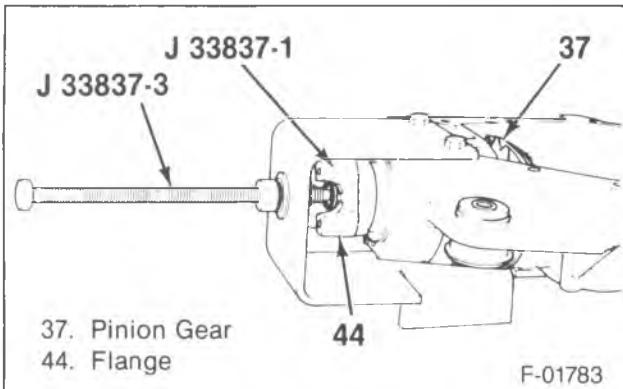
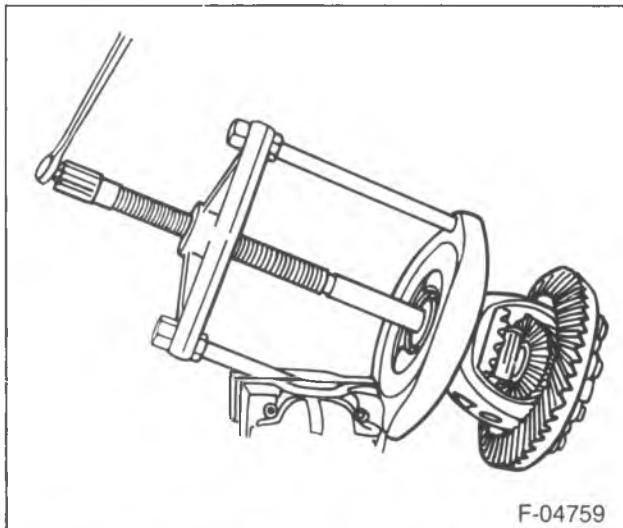
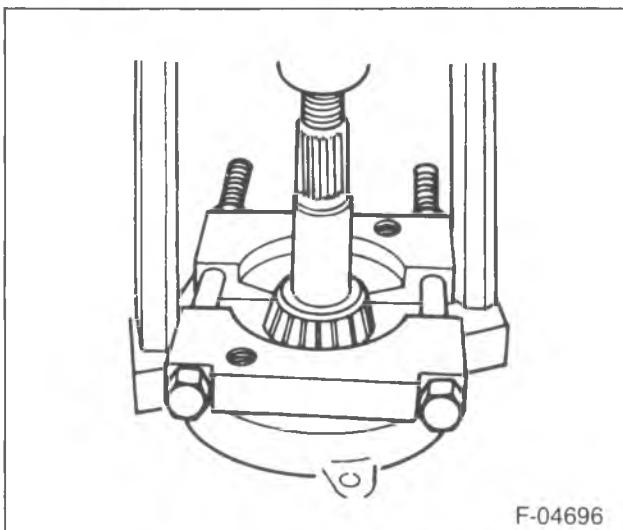
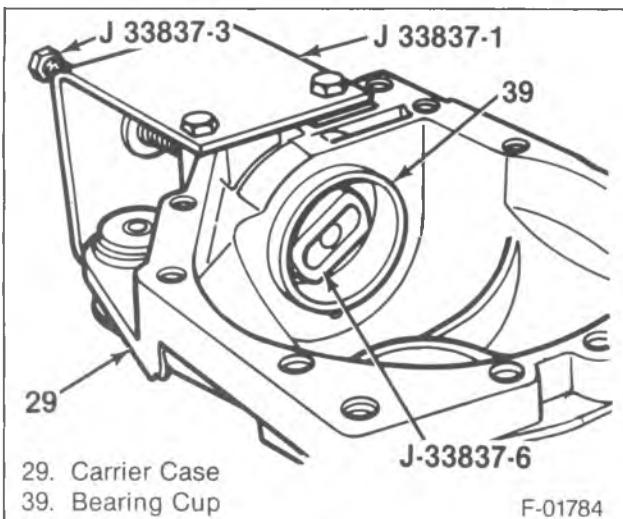

Figure 11—Remove the Pinion Flange
Figure 14—Removing the Differential Side Bearings
Figure 12—Removing the Pinion Bearing
Figure 13—Removing the Inner Pinion Bearing Cup
- Mount the left carrier case half in J 33837-1 (figure 11).
22. Flange (44) and deflector (43) using J 33837-1 and J 33837-3 (figure 11).
23. Pinion (37), with spacer (40), pinion bearing (39) and shim (38).
24. Spacer (40) from the pinion.
25. Bearing (39) from the pinion. Use J 22912-01 and a press (figure 12).
26. Shim (38).
27. Bearing and cup (41) and seal (42), using J 33837-1, J 33837-3, and J 33837-6.
28. Inner bearing cup by pushing it out using J 33837-1, J 33837-3, and J 33837-6 (figure 13).
29. Bolt (36) and shaft (52) from the differential case (35).
30. Differential pinion gears (56) and thrust washers (55).
31. Side gears (54) and thrust washers (53).
32. Bolts (34).
33. Ring gear (37).
34. Side bearings (33), using J 22912-01 (31) (figure 14).